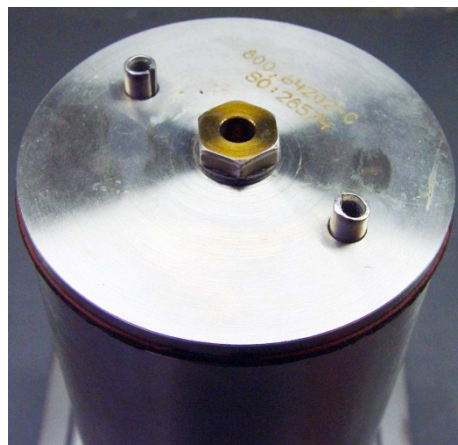

Figure 3-14 Bottom Plug Inserted
14. Insert the bottom plug (Figure 3-14).